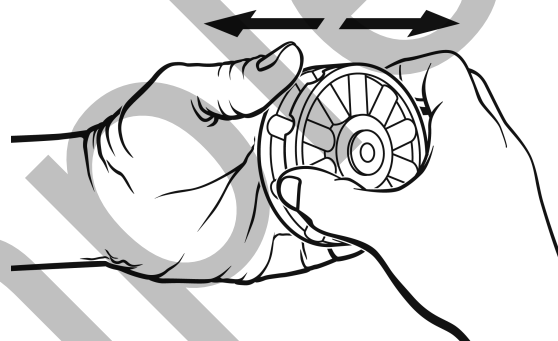

Figure 2
- b. Gently create a space between the front and back pieces of the hub, as shown in Figure 2. The space should be just big enough for you to insert the dowel of one of the blades.